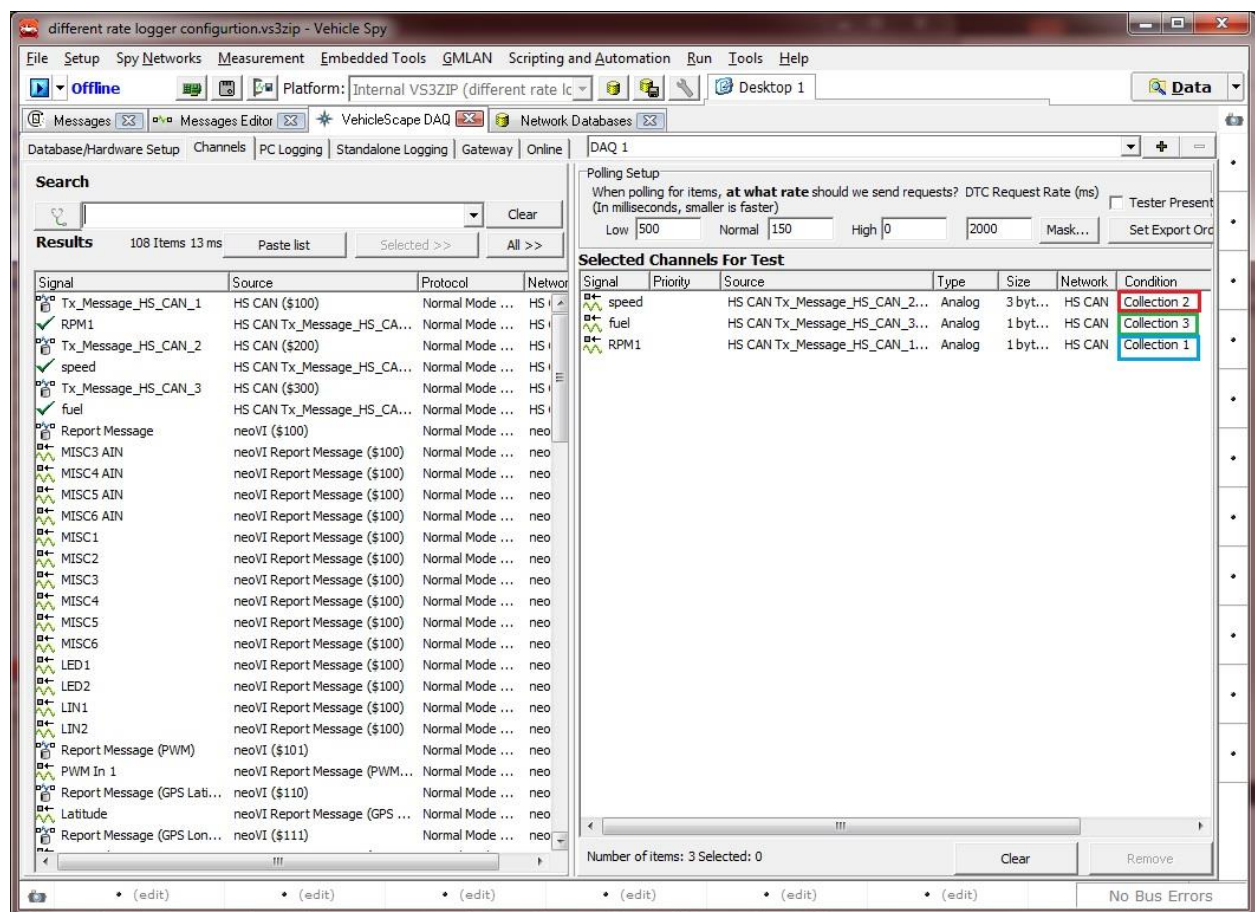

Figure 2: Assign the selected messages to different collections
- Select ‘RPM’ Signal (Right click on the signal → condition change → only collect when one of these collections are active’ → Select Collection1). (Figure 2)
- Select ‘Speed’ Signal (Right click on the signal → condition change → only collect when one of these collections are active’ → Select Collection2). (Figure 2)
- Select ‘Fuel’ Signal (Right click on the signal → condition change → only collect when one of these collections are active’ → Select Collection3). (Figure 2)